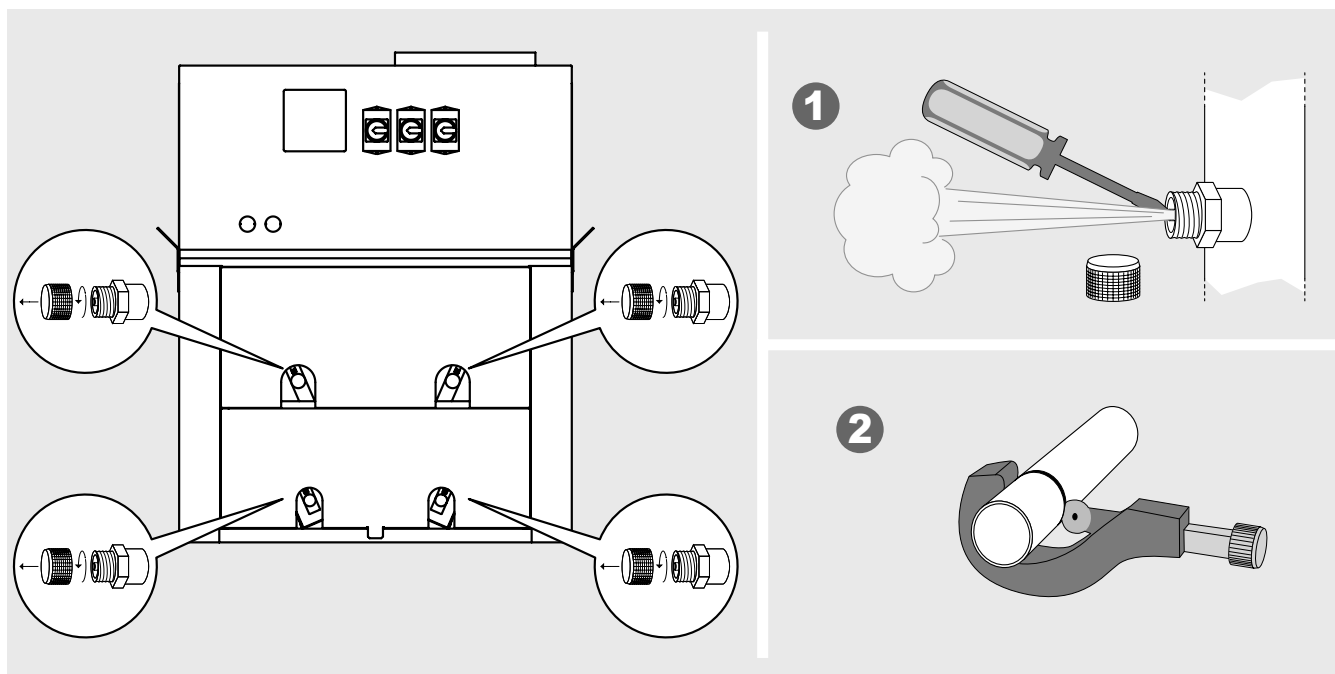

Figure 5
- 6.12 Discharge the pre-charge pressure (approx. 2 bar) from the heat exchanger before cutting the inlet and/or outlet sleeves (see "Figure 5").